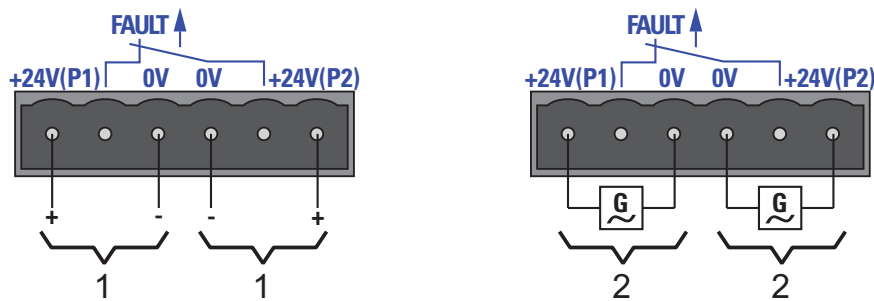

Figure 9: Connecting the supply voltage at the 6-pin terminal block
You can choose between DC or AC voltage when connecting the supply voltage. You use the +24V and 0V pins to connect the AC voltage (see fig. 9).
- ▶ The signal contact (“FAULT”, for pin assignment of terminal block, see fig. 9) monitors the functioning of the device, thus enabling remote diagnostics. You can specify the type of function monitoring in the Management.